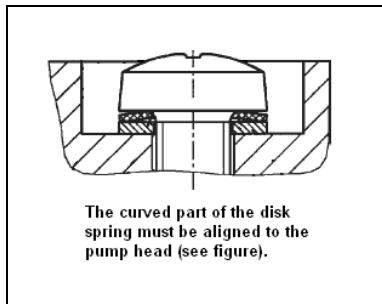

Fig. 28: Aligning the disk spring
- i** Refer to Fig. 28 for arrangement and alignment of disk springs and the screw's washer.